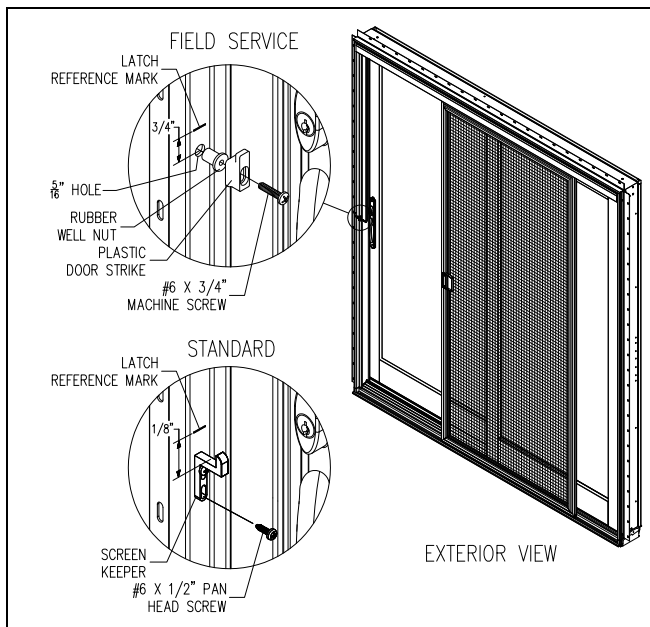

Figure 5
2. Open and slide the screen to the open position. Position strike on the jamb 1/8" below the latch reference mark. Center the strike on the jamb between the interior and exterior of the screen. See Figure 5. Mark the center of each screw slot on the jamb. Drill pilot holes with a 3/32" drill bit. Position strike on jamb and fasten with the two provided #6 x 1/2" pan head screws. See strike screws at the center of the adjustment slots. Close screen and check latch operation. Raise or lower strike as needed.